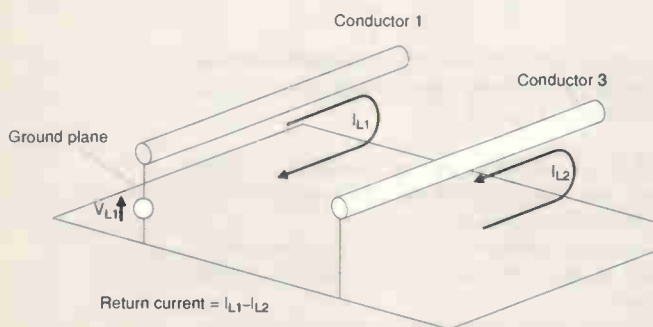

Fig. 3. Here, conductors 2 and 4 are replaced by a ground plane.
If conductors 2 and 4 are replaced by a ground plane and V_{L2} is replaced by a short circuit, the picture changes to that shown on Fig. 3. The relationships of equations (6) and (7) continue to apply. Substituting them in equation set (1) and taking account of symmetry of the image conductors leads to the loop equations,
With a one-to-one correlation between the conductors of Fig. 3 and the horizontal branches of the circuit, Fig. 7 can be treated as a section of a three-conductor transmission line. The simulation is surprisingly accurate².
To put flesh on the bones of the dry theory in the panel entitled 'Formulations', the first action is to assign dimensions to the physical parameters of Fig. 3 shown in the panel. One example is shown in Fig. 8.